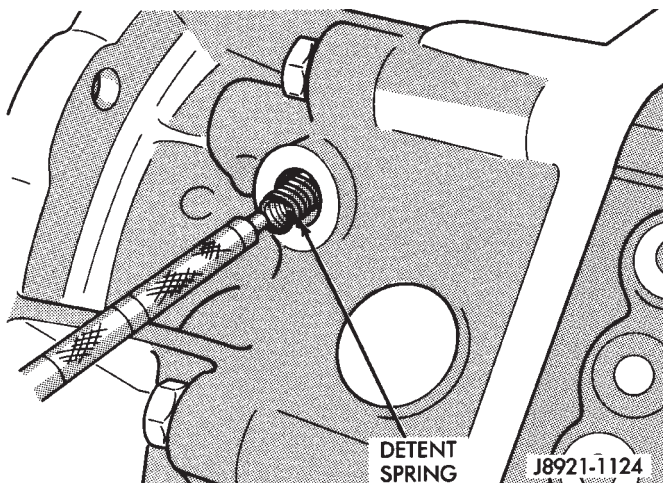

Fig. 48 Install Detent Spring
(17) Install detent spring (Fig. 48).